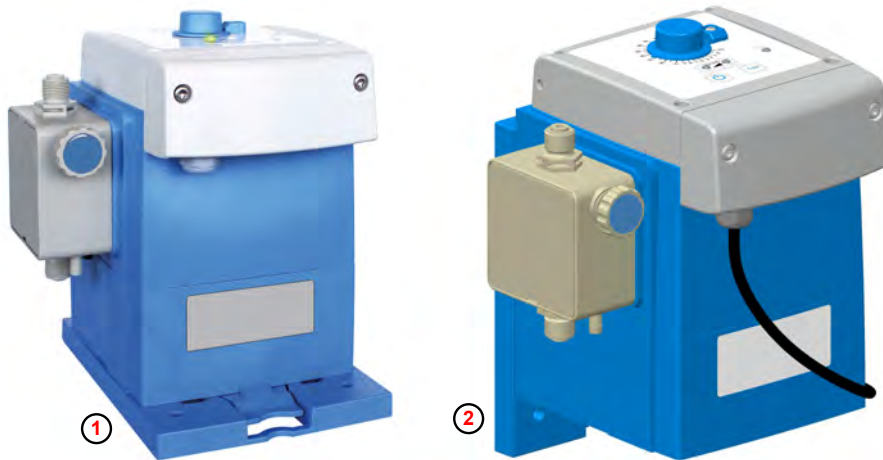

Fig. 3: Countertop and wall-mounting
① Countertop-mounting
② Wall mounting
The pump can be mounted both upright (e.g. on a bracket or on the metering container (Fig. 3 , ①), or on the wall ②).